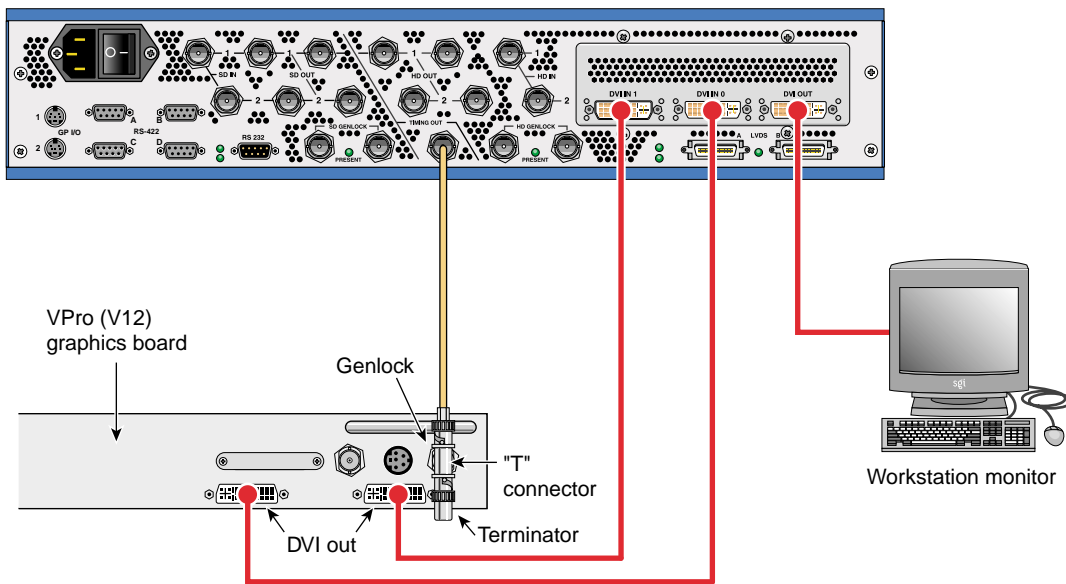

Figure 2-1 Connecting the VPro Graphics Board to DMediaPro DM5 and VBOB
To connect the workstation to the DM5, see Figure 2-1 and use the following steps:
1. Connect one end of the 2-meter DVI cable (white cable) from **DVI (L)** on the VPro graphics Dual Channel Display (DCD) board to the DMediaPro DM5 board's **DVI IN 0** connector.
2. Connect one end of the 2-meter DVI cable (black cable) from **DVI (R)** on the Dual Channel Display board to **DVI IN 1** on the DMediaPro DM5 board.
3. When using genlock, attach the 2-meter BNC Genlock cable from the genlock port "T" connector (nearest **DVI (L)** on the Dual Channel Display) to the "Timing Out" connector on the back of the VBOB. The other side of the "T" connector is terminated with a 75-ohm device, see Figure 2-1.